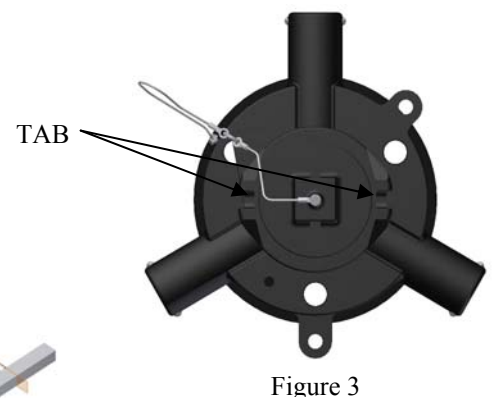

Figure 3
7. Using the SALCO Quick Inspect Wrench (Figure 2) - lay the wrench across the tabs (Figure 3) and make 1/4 turn.